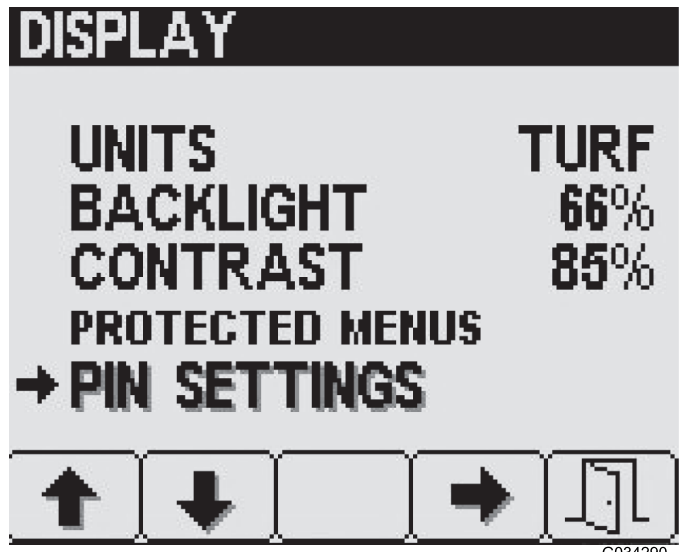

Figure 29
1. At the Display menu screen, press button 2 to navigate to the PIN Settings option, then press button 4 to select PIN Settings (Figure 29).
1. At the PIN Settings screen, press button 2 to navigate to the PIN Change option, then press button 4 to select PIN Change (Figure 29).